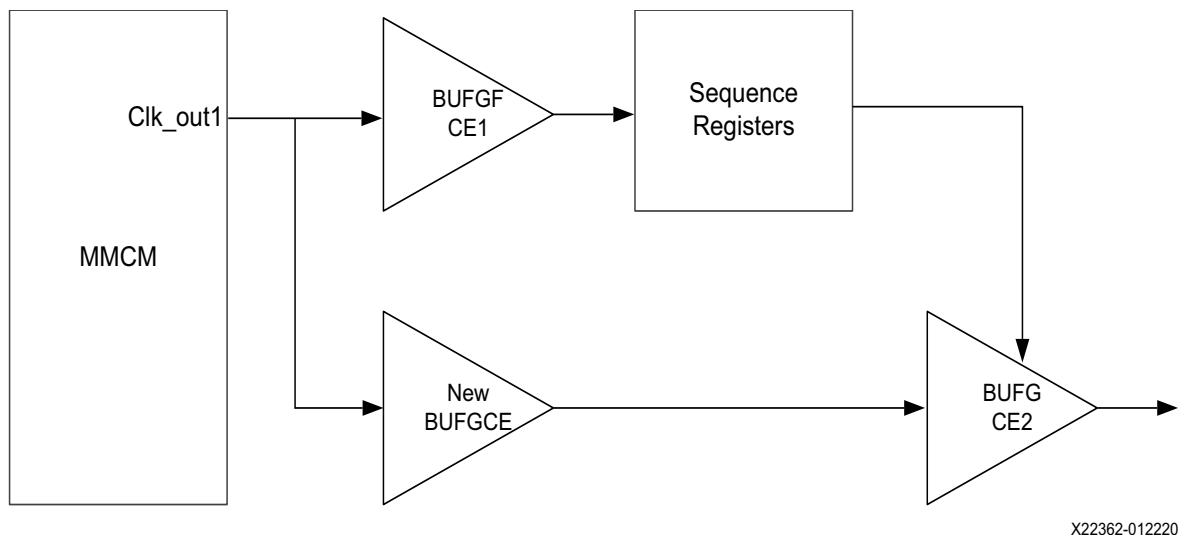

Figure C-1: Safe Clock Startup Failing Path
1. Add an additional `BUFGCE` cascaded in the failing clock path along with the existing `BUFGCE` in safe clock startup path. Figure C-1 shows the failing path for the `clk_out1`. Insert New `BUFGCE` between MMCM and the `BUFGCE2` as shown below.